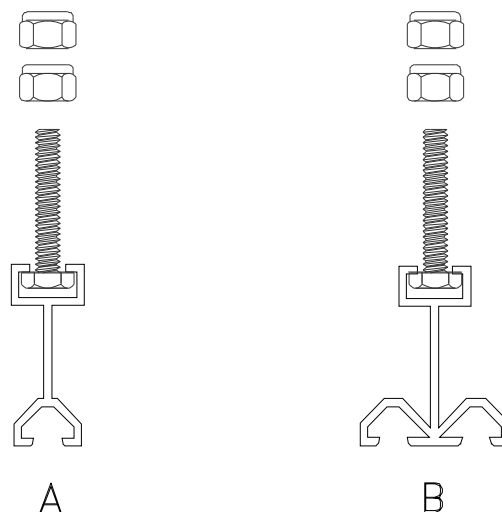

Figure 7
**STEP 8.** Select one of the centering bars and insert one of its spheres into the corresponding base member subchannel. Insert the other sphere into the opposite base member channel (see Figure 7). Repeat the centering bar installation procedure for each of the centering bars for the section of the joint cover system.
**STEP 11.** Insert the head of each centering bar bolt into the subchannel receiver and slide each bolt into its installed position, the locations marked in Step 15 (see Figure 7, A or B).